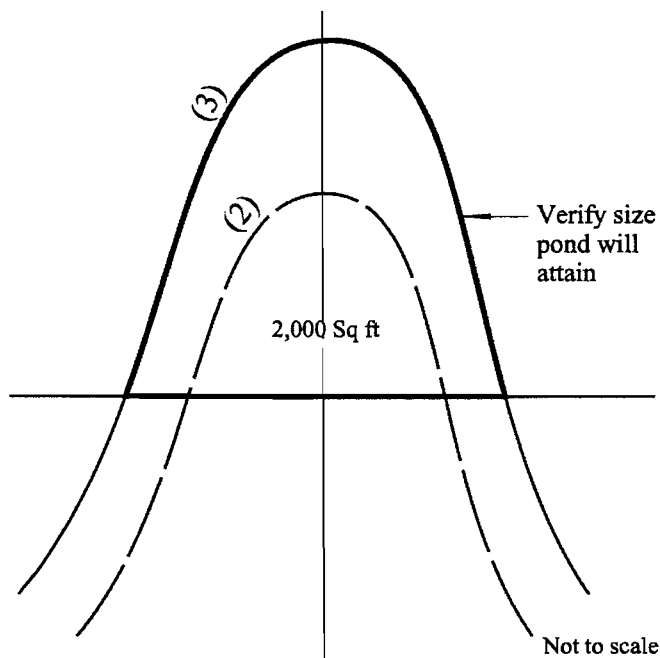

Figure 5-14c, Establishing Pond Size Needed
Step 3. Finalize pond size by measuring the area formed by the highest contour and the top-inside face of the dam as shown in Figure 5-14c. Use the information provided below to estimate the area of the pond using your best judgment. It is highly likely that the exam scorers will grant reasonable latitude in your estimation of size since you're not expected to have the means to establish an exact pond size.